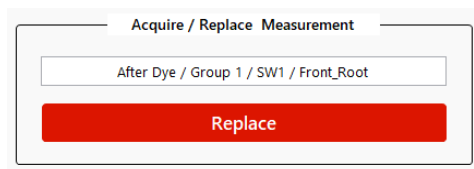

Figure 50 - Replace control
- If the measurement already exists, the control will display a **Replace** control instead of **Acquire** (**Figure 50 - Replace control**). You can replace the measurement by clicking on **Replace**. A